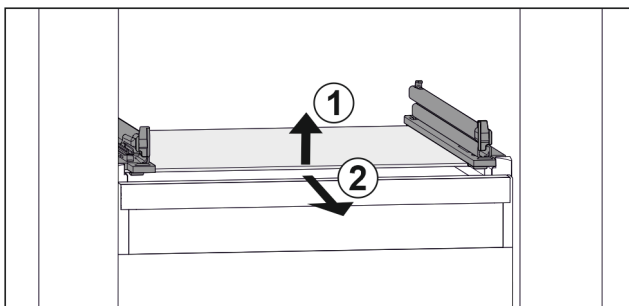

Fig. 42 Example illustration of glass shelf
- ▶ Lift glass shelf at the front. Fig. 42 (1)
- ▶ Take out glass shelf to the front. Fig. 42 (2)